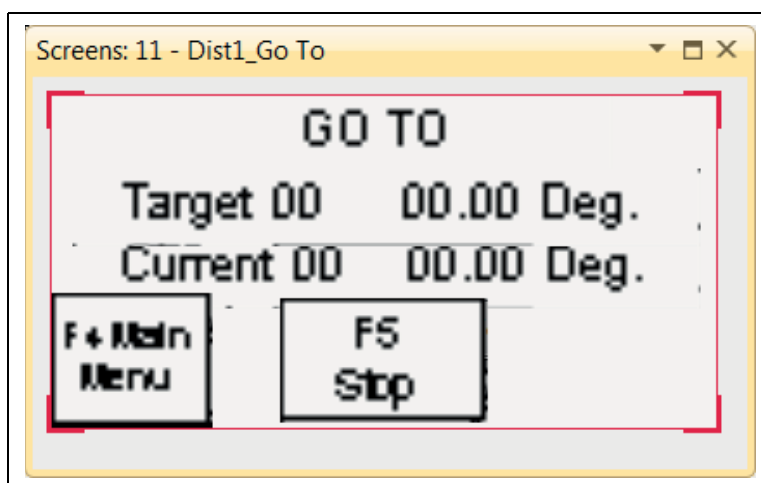

Figure 5N
14. Press the **F6** key and enter the number of the spout position you wish to make the spout travel to. Press the **enter key** , the following screen as in Figure 5N will appear while the spout is moving into position: